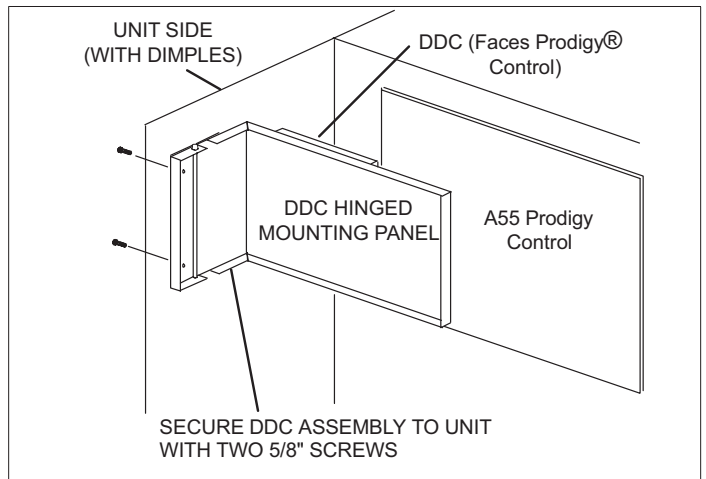

Figure 1. 036, 060, 120 Units – Installing DDC Hinged Mounting Panel
4. 036, 060, 120 Units: Position DDC hinged mounting panel as shown in figure 1. Make sure the DDC faces the A55 Prodigy control board. Align holes on hinged bracket with dimples on the unit side. Secure DDC panel to unit with two 5/8” screws.